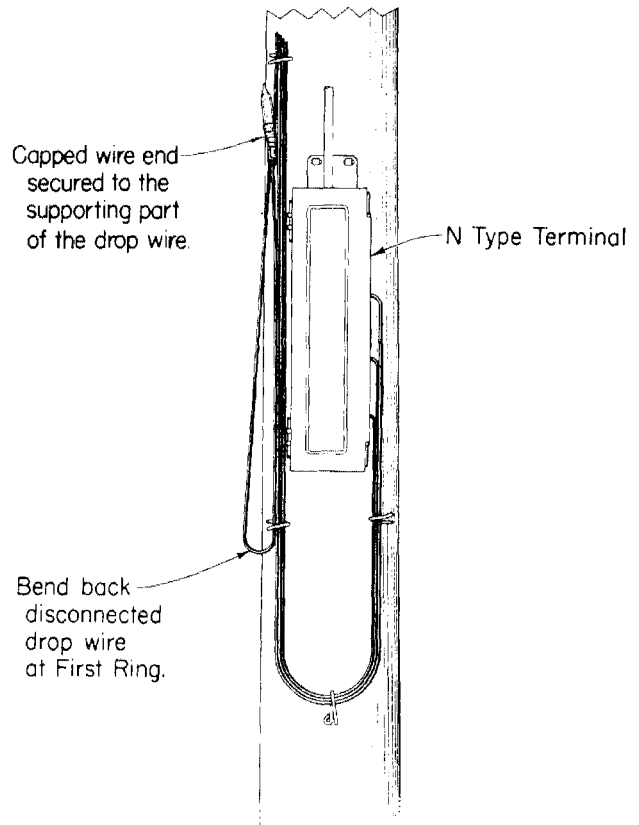

Fig. 5 — N-Type Terminal, Pole Mounted
- (1) Pull the free end of wire out of the terminal.
- (2) Lay wire back on itself at the first ring below the terminal, tag and cap the free end and then secure the free end to the supporting part of the wire as shown in Fig. 5 and 6.